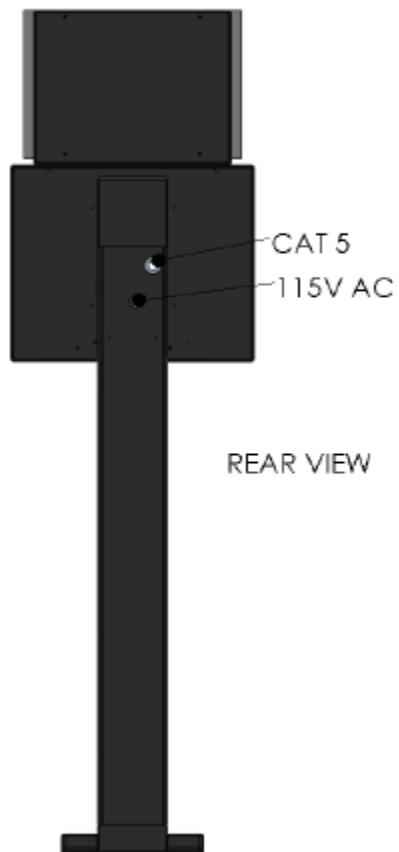

Figure 9: Pedestal Mount (Rear View Electrical)
- Figure 9: Pedestal Mount (Rear View Electrical)18